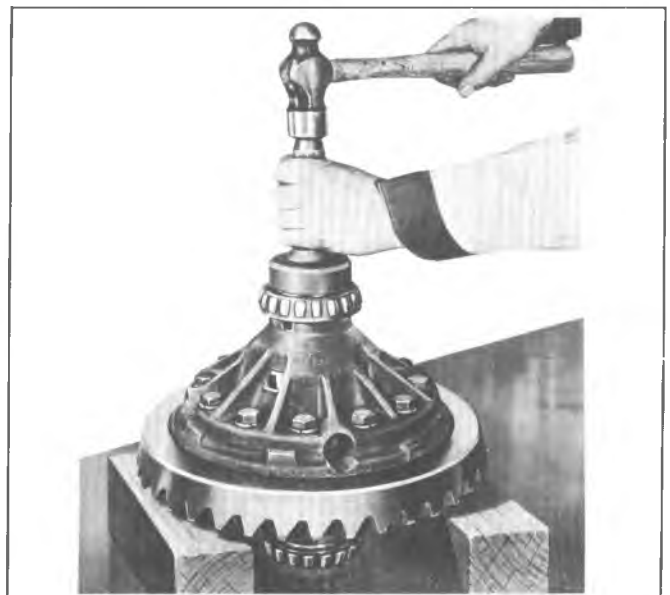

Fig. 5E--Differential Bearing Installation
6. When installing the second bearing, support case on pilot plug as shown in figure 5E to prevent damage to first bearing installed.